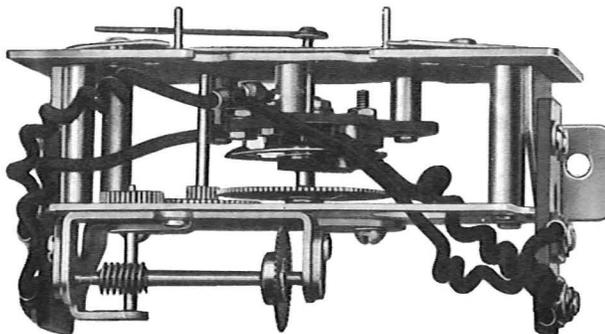
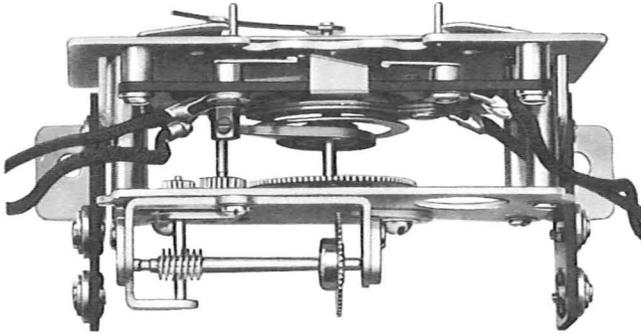

Fig. 5 - Gear Train With One Movable Contact
Fig. 6 - Gear Train With Two
(1) As required, remove dirt from the contacts with the brush or a cleaning cloth and smooth them with the contact burnisher. If they do not make reliable contact adjust, as covered below.
(2) The movable contact on the type of contact mechanism shown in Fig. 5, and the movable alarm contact on the type shown in Fig. 6 may be adjusted for reliable operation by shaping the contact spring. No other adjustments are feasible and, if difficulties arise replace the entire gear train, including the contact mechanism with one of the type shown in Fig. 6 and having the same gear ratio.